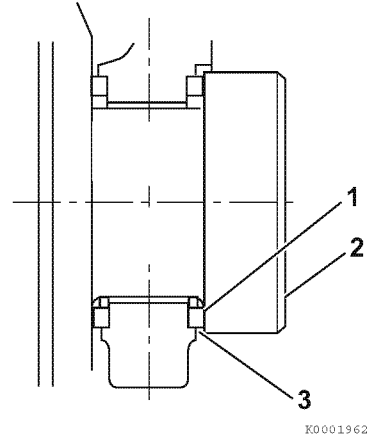

Figure 6-59
- **Method B:** Use a feeler gauge to measure the clearance (**Figure 6-59, (3)**) between the thrust bearing (**Figure 6-59, (1)**) and crankshaft (**Figure 6-59, (2)**). Record the measurement. See *Thrust Bearing* on page 6-10 for the service limit.